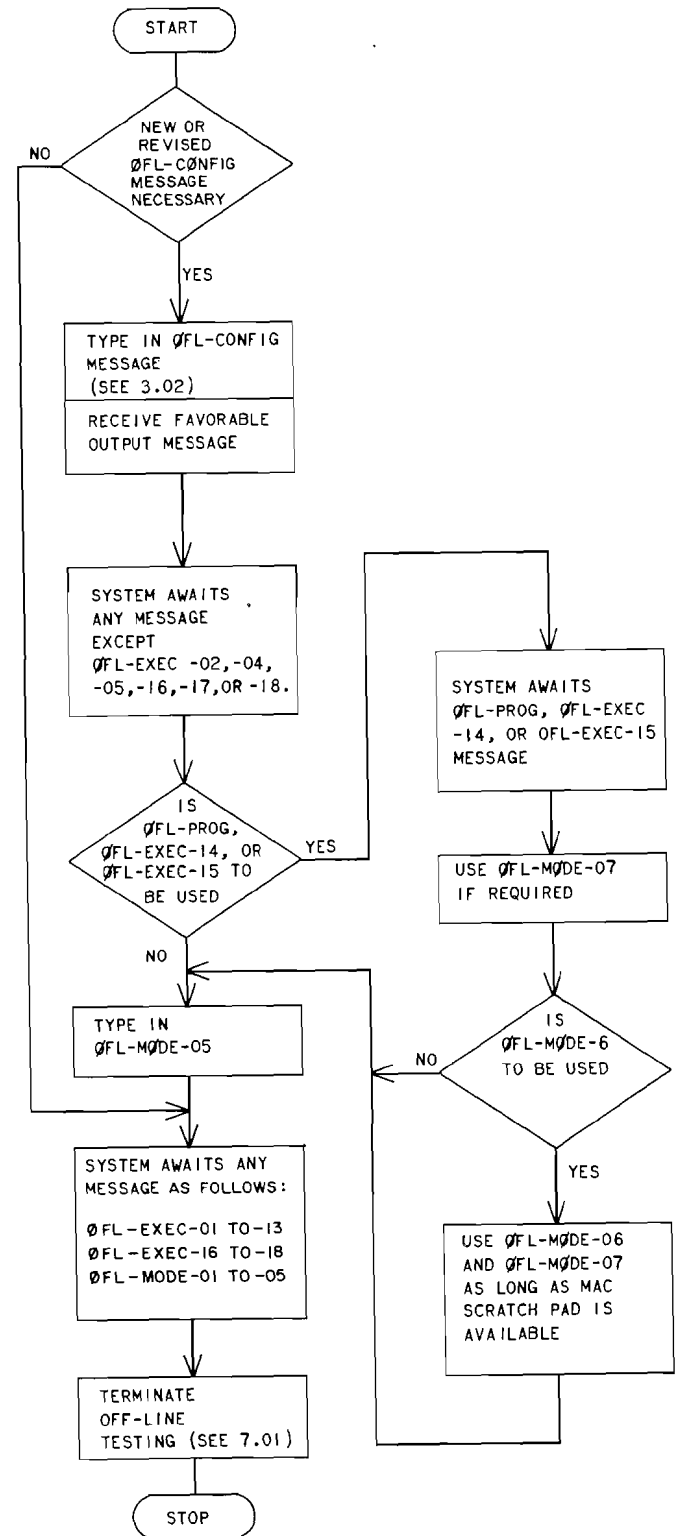

Fig. 1—How to Make an Off-Line Test
3.09 Figure 1 shows the action required to start off-line operations.